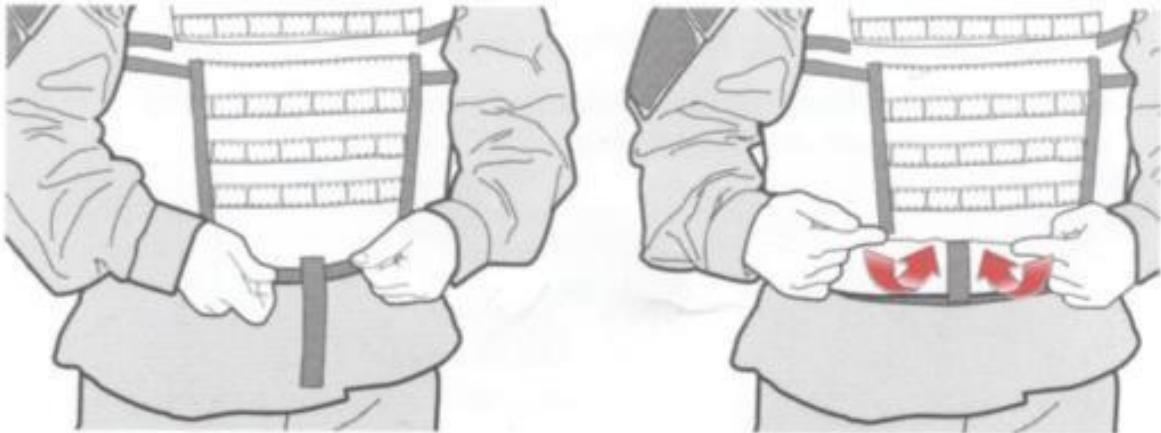

Fig. 17. Closing the Front Flap.
8. Close the Front Flap, secure with hook and pile tape, and tuck the bottom of the Front Flap up into the Front Flap Pocket as shown in Fig. 17.